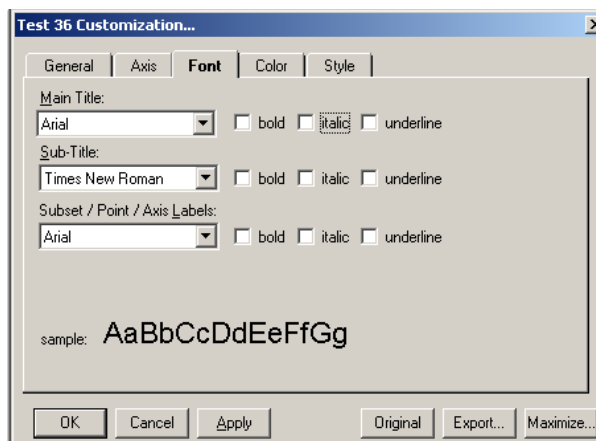

Figure 5-90 Customization Dialog Box—Font Tab
- **Font Tab**—Use the Font tab to change the appearance of the fonts that appear in the Main Title, Sub Title, and Subset/Point/Axis Label boxes. The bottom of the dialog box displays a sample of the font as you select it. See Figure 5-90.